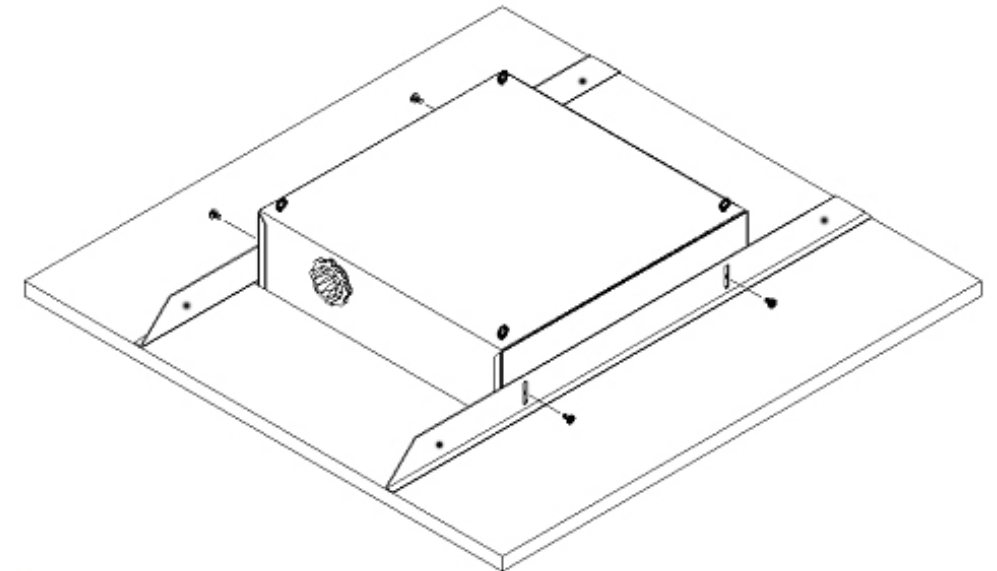

Figure 3 - Installation to ceiling tile.
Step 3 – Lay ceiling tile over the enclosure assembly such that the previously cut opening in the ceiling tile is equally spaced around the outside of the enclosure (ref. *Figure 3*). Place the ceiling tile bridges along each side of the enclosure and attach using a #8-32 screw. Prior to tightening, be sure to properly align the tile bridges so the ends of the tile bridges align with the outside edge of the ceiling tile. Once the tile bridges are properly aligned, press the shoulder of the tile bridge down firmly against the tile and then securely tighten the screws. This is to assure that there is minimal gap between the enclosure's flange and the ceiling tile once it is placed in the ceiling. The four (4) holes on the tile bridge will be used to secure the enclosure with grid wires.